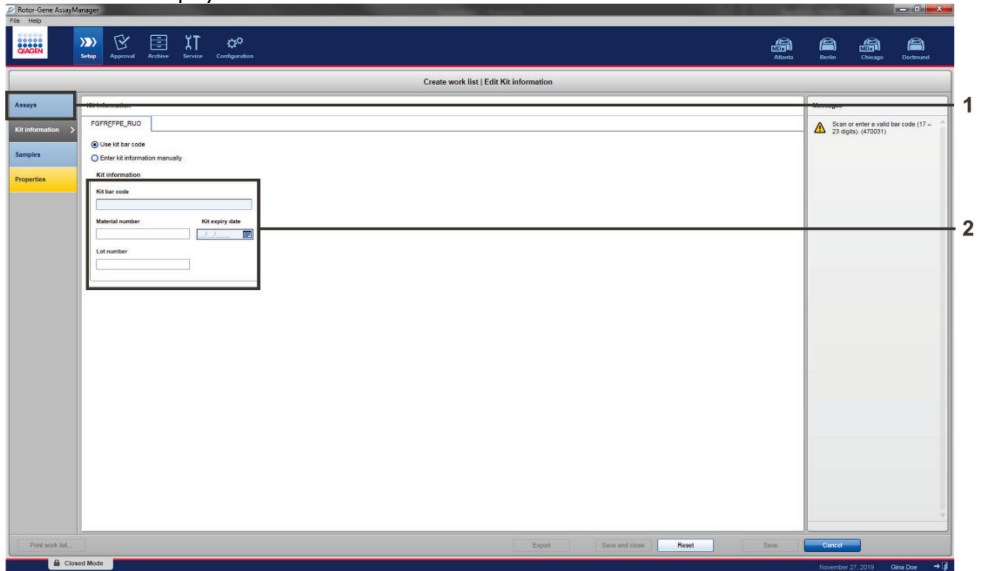

Figure 9. Create work list main window. 1 = "Kit information" tab, 2 = Enter the kit information.
5. Click the Kit information tab. Select **Enter kit information manually** and enter the following kit information (Figure 9):